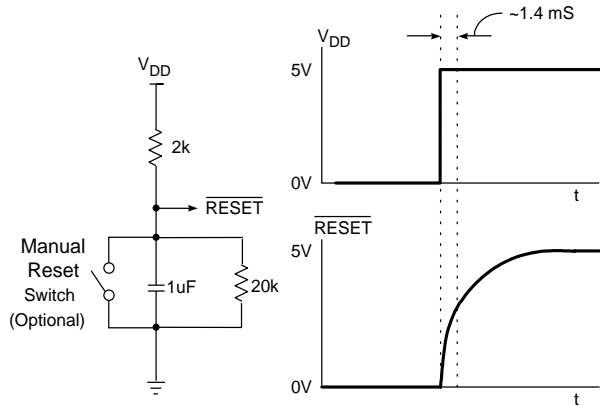

Fig. 10b Acceptable external reset circuit when a master reset is not available
In applications where a board-level reset is not available, a circuit similar to figure 10b can be used to ensure correct reset on power-up. The  $\overline{\text{RESET}}$  pin will typically take 1.4ms to reach 2.5V on power up, but can take longer for power supplies with slower rise times. A bleed resistor such as the one shown (20k) will assist the capacitor to discharge once power is removed. The user should allow the capacitor to discharge to at least 0.5V before power is reapplied, to permit a full internal reset. The time taken by the  $\overline{\text{RESET}}$  pin to reach 0.5V on power down, is dependent upon the fall time of the power supply.
- Changes to Ancillary Checksum Verification, Data Processing Block, I2C Serial Interface, and Reset descriptions. (Added Figure 10b)